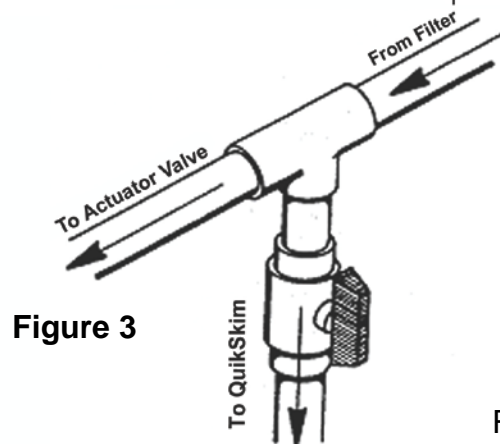

Figure 3
3. Water is directed to the QuikSkim by installing a Tee fitting with a 2" to 1 1/2" reducer just ahead of the in-floor cleaning water valve and installing a 1 1/2" ball valve just below the Tee (see Figure 3). This valve is fully open during the operation of the QuikSkim. If a DE filter is used on the system, this valve must be closed when charging the filter through the skimmer.